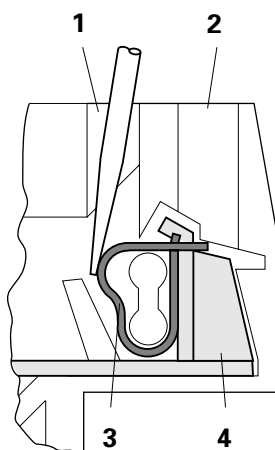

Figure 10
3. Place a small screwdriver with a strong, tapered blade (maximum  $\varnothing$  3 mm) into the square hole **(1)** in the terminal element (See Fig. 10).